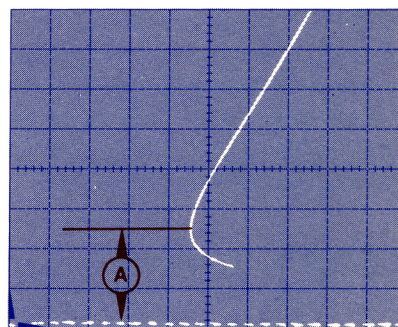

Figure 2-4. Display of valley-point anode current I_V . Point A is area of measurement.
- h) Rotate VARIABLE COLLECTOR % control cw to maximum then ccw to 0. Wait for a moment until spot returns and produces a trace. See Figure 2-4. 8